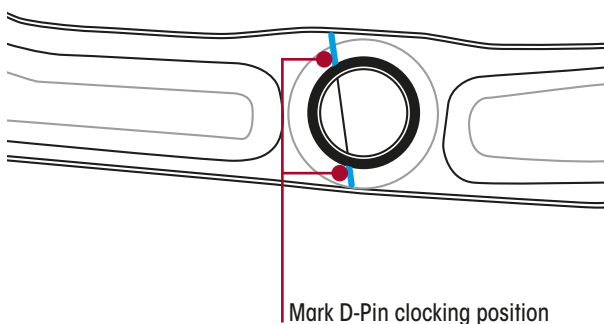

Figure 74: Mark Original D-Pin Clocking Position (Angle)
4. Mark the clocking position of the D-pin bush on the support beam with a paint stick. Refer Figure 74.